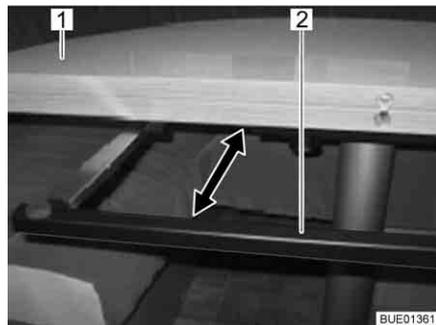

Fig. 96 Supporting frame
- Pull out the support frame (Fig. 96,2) below the table top (Fig. 96,1) to the end position.